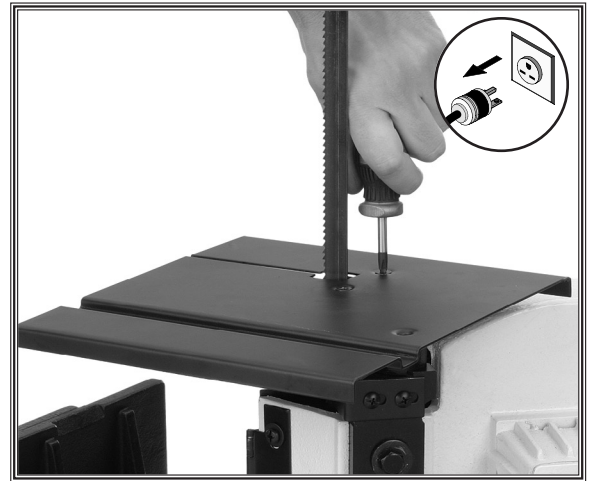

Figure 24. Installing the table.
4. Position and install the vertical cutting table with the two stop plate mounting screws as shown in **Figure 24**).